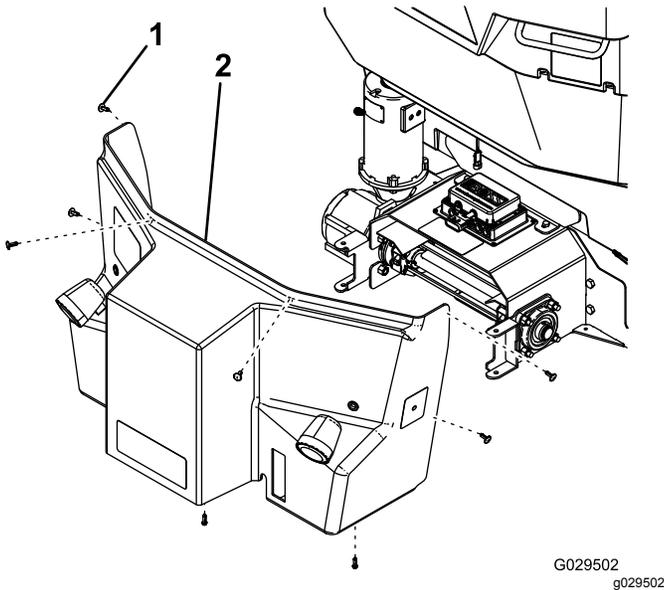

Figure 22
3. Remove the plastic clips securing the front cover to the hopper (Figure 22).